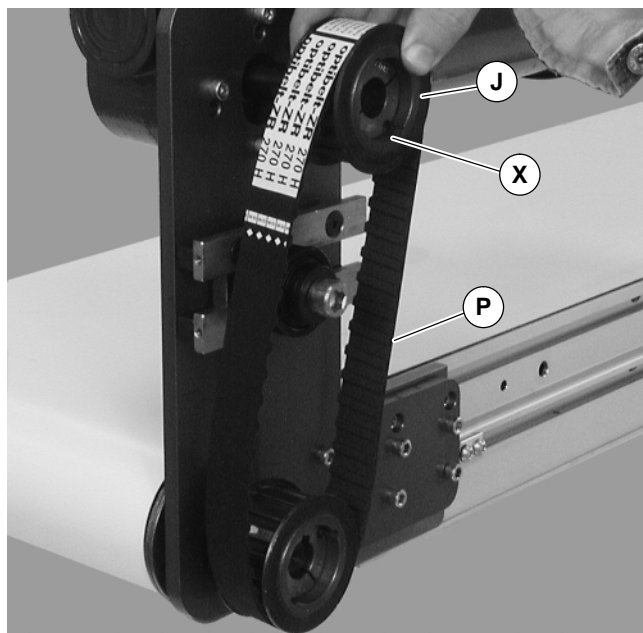

Figure 13
NOTE: If drive pulley (J of Figure 13) is replaced, wrap timing belt around drive pulley and complete step 3.
3. Loosen drive pulley taper-lock screws (X of Figure 13). Remove drive pulley (J) and timing belt (P).
NOTE: Drive pulley (J of Figure 13) is removed. Wrap timing belt around drive pulley and complete step 12.